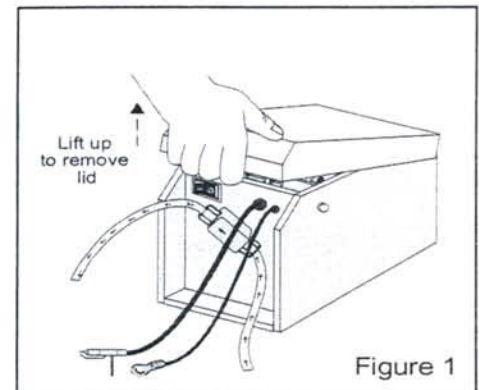

Figure 1
- Main Power Controller (Black plastic electrical case with attached cables and hoses - See Figure 1)
The main power controller is housed inside a black weather-resistant plastic case. To access the control circuitry remove the protecting lid by lifting the front of the lid as shown in Figure 1.